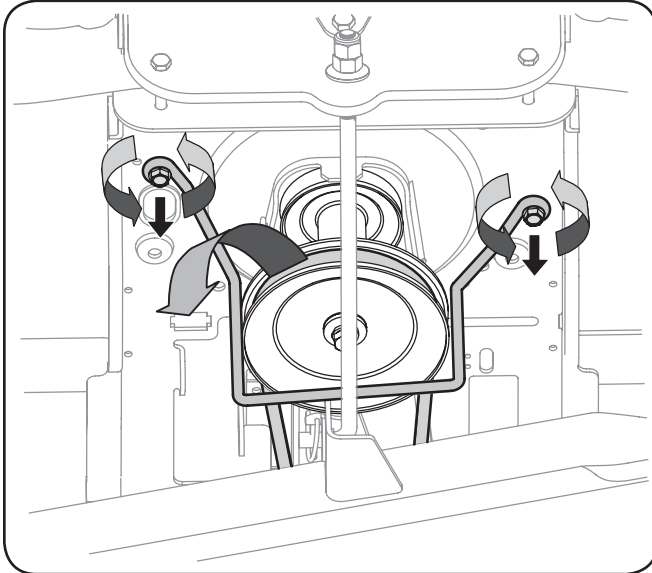

Figure 7-1 (Manual PTO shown)
3. Locate the engine pulley (or electric PTO clutch if equipped) under the front of your tractor. See Fig. 7-1.
4. Remove the belt guard and belt as follows. Refer to Fig. 7-1:
11. Replace the belt guard. See Fig. 7-1.